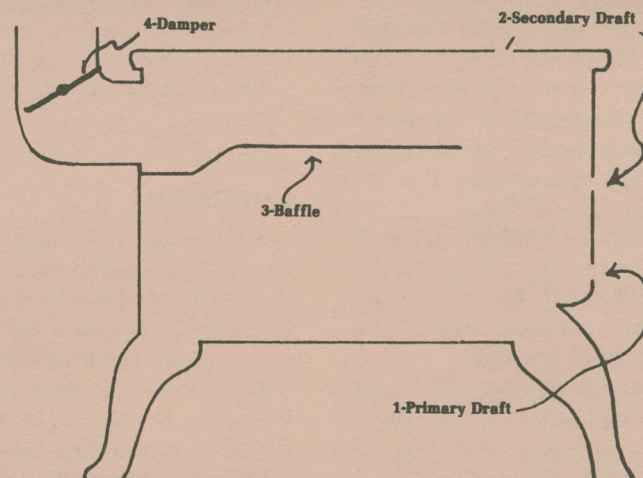

Figure 1. Basic design features of a wood burning stove.
Most stoves are equipped with some sort of control on the **draft** (air intake opening), which regulates the amount of air entering the stove. (See Figure 1, item 1.)
The **secondary draft** introduces fresh oxygen into these gases and encourages their combustion. (See Figure 1, item 2.)
Internal **baffles** can be incorporated in the stove to force the gases to circulate before leaving the stove. (See Figure 1, item 3.)
Another way to control the speed with which the gases move through the stove is by the use of **dampers**. (See Figure 1, item 4.) Dampers restrict the gases from entering the chimney and force the gases to remain in the stove longer.